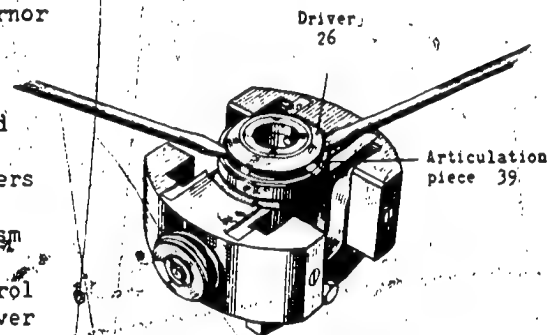

Fig. 2 Detaching the driver
1. Clamp fuel injection pump complete with governor attached on clamping support EF 8498. Unscrew guide pin (7) and fixing screws of the governor cover (18).
2. As the governor cover is sealed with a sealing composition, use rubber mallet to loosen it, and take precautions to collect the lubricating oil from the governor housing! Holding control lever (17) vertically, lift housing cover off upwards.
3. Remove link pin (16). Suspend link fork (20) temporarily.
4. Unscrew castle-nut (9). Remove cover disc (8), washers (5) and floating lever (22). Remove slider (articulation piece) (4) and remaining washers. (Care: Do not interchange the washers placed in front of, and behind, the slider!)
5. Bend up lock washer (23), unscrew both hexagon nuts, extract coupling bolt upwards, and remove adjusting pin (1) (link pin).
6. Remove guide bush (3).
7. Holding the camshaft on the coupling or on the injection timer, unscrew round-nut (fixing nut) (29) with spanner EP 8101 E (for governor size A) or EF 8101 D (for governor size B).
8. After screwing the extractor EF 8449 (for governor size A) or EF 8207 (for governor size B) into the driver (26), detach the latter from the camshaft.
9. Lift the driver (the governor hub) (26) off the articulation piece (39) with the aid of two screwdrivers (see Fig. 2), then remove rubber buffer (30).